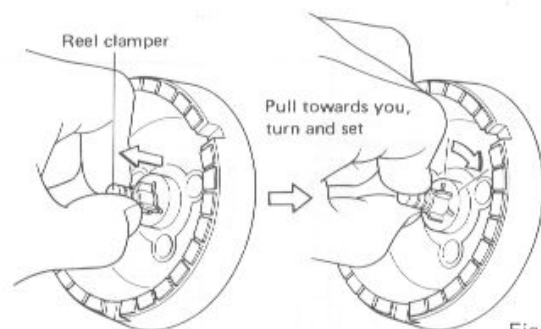

Fig. 6
2. As shown in Fig. 6, pull the reel clamber towards you, rotate it to the left or right, align it with the reel or reel adapter groove, and then remove your finger.